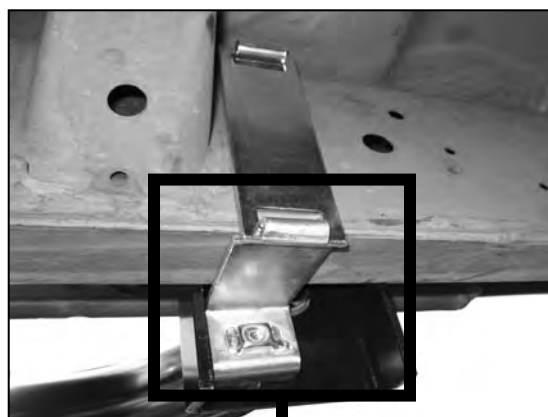

Figure 6
7. Depending on your vehicle, place either the Rear Straight Bracket or the Rear Offset Bracket on the inner side of frame. Hook Top Rear Clamp on the upper slotted hole on the Straight Bracket. **NOTE:** Hook on the Top Rear Clamp should be facing up to the floor panel of the vehicle. Hook Bottom Rear Clamp onto the lower slotted hole on the Straight Bracket. **NOTE:** Hook on the Bottom Rear Clamp should be facing downwards to the ground (**Figure 6 & 7**).
8. Hold Clamp Assembly in place while you attach Rear Mounting Bracket to top and bottom Clamps using the included (2) 10mm x 45mm Hex Head Bolts, (2) 10mm Lock Washers, and (2) 10mm Flat Washers (**Figure 6 & 7**). Do not tighten at this time.